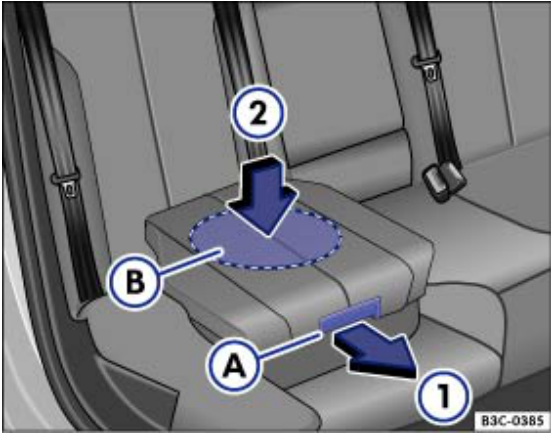

Fig. 85 Integrated child seat: folding back the seat cushion
- Using the release lever → Fig. 85 ⓐ, pull the seat cushion forwards in the direction of the arrow ⓐ.
When folding up the integrated child seat, press only in the centre of the seat cushion → Fig. 85 ⓑ. The seat cushion could otherwise become jammed and will not engage securely.